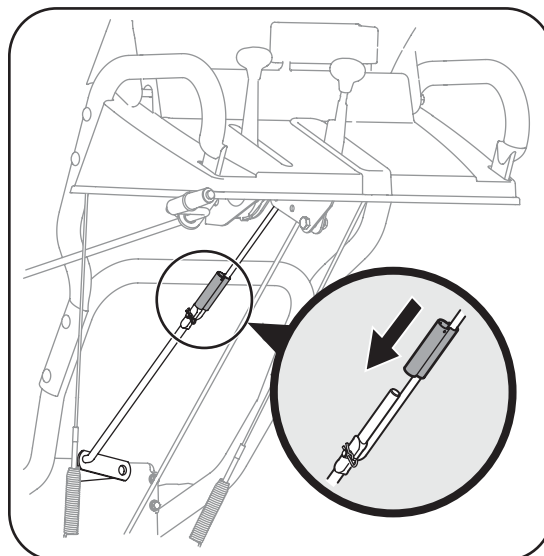

Figure 3-7
- Align the upper and lower shift rods, then slide the shift rod connector down over the end of the lower shift rod. Tap the connector until the lower rod is completely through the connector. See Figure 3-7.